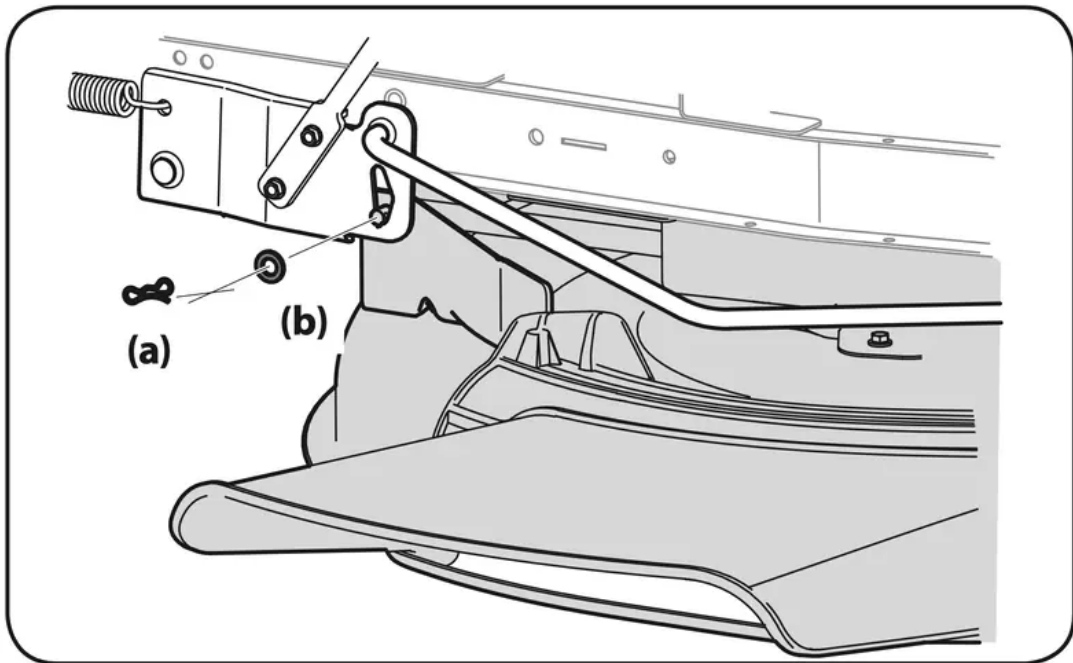

Figure 18
3. Remove the bow-tie cotter pin (a) and flat washer (b) from the deck lift assembly, and retain for reinstallation later. See Figure 18.